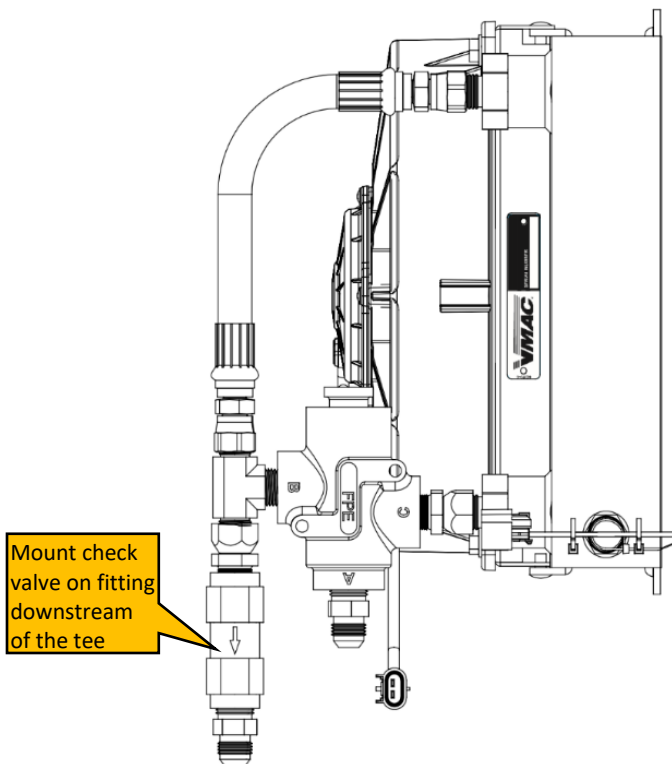
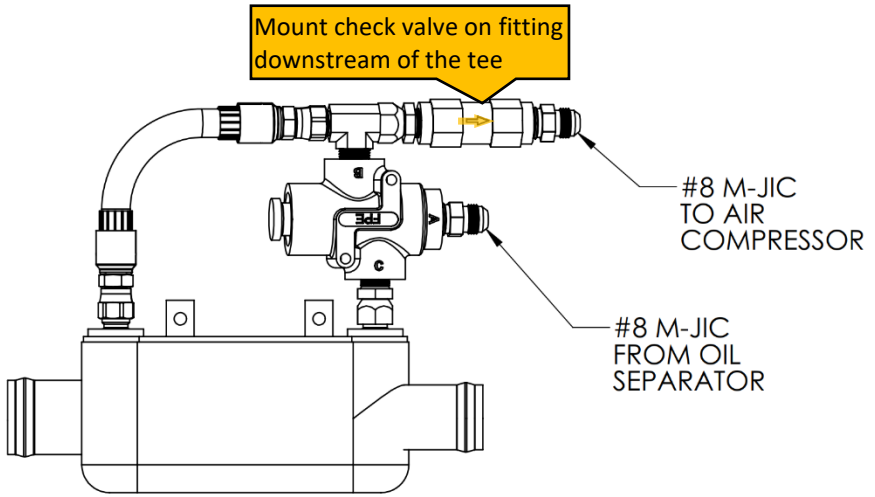

Figure 3 - Thermostatic Valve on Air to Oil Cooler with Check Valve
Figure 4 - Thermostatic Valve on Liquid to Oil Cooler with Check Valve
- *Figure 3 or Figure 4 must be installed.*
- The Check Valve should be installed down stream of the cold oil out port as shown by example in Figure 3 and Figure 4 below.